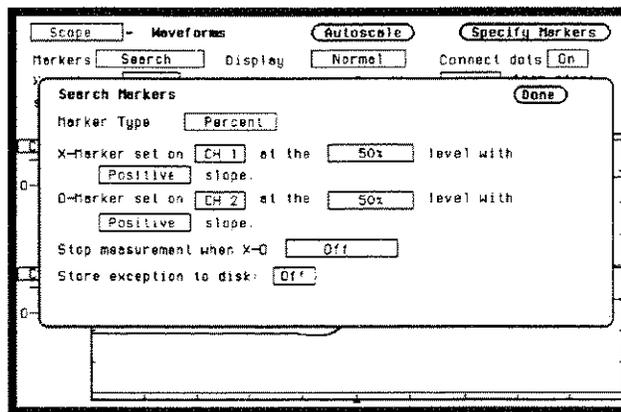

Figure 25-24. Specify Search Markers Pop-up
4. Select Specify Search Markers and set Pop-up as shown in figure 25-24.